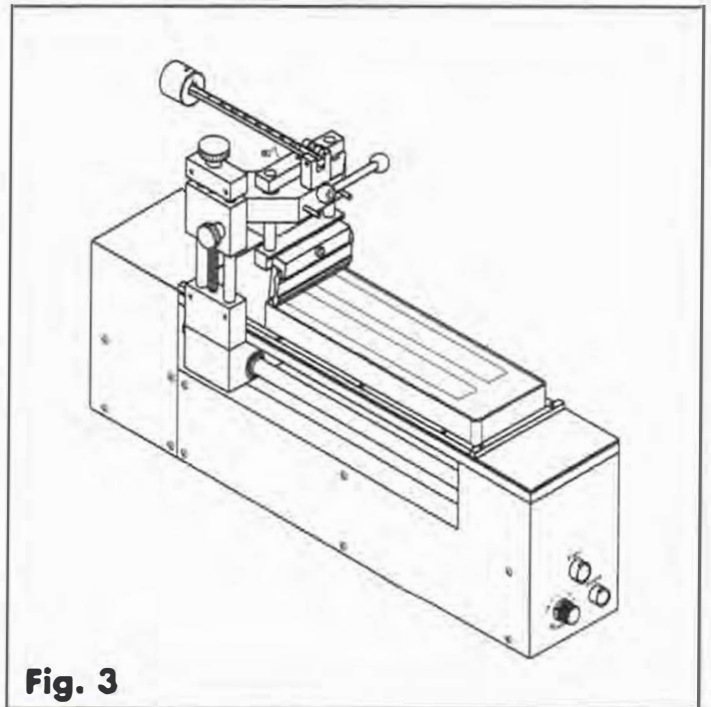

Fig. 3
1. The hexagonal lever must be horizontal during operation, as shown in figure 3, or the force readings will not be accurate. The bubble vial will show when the lever is horizontal.